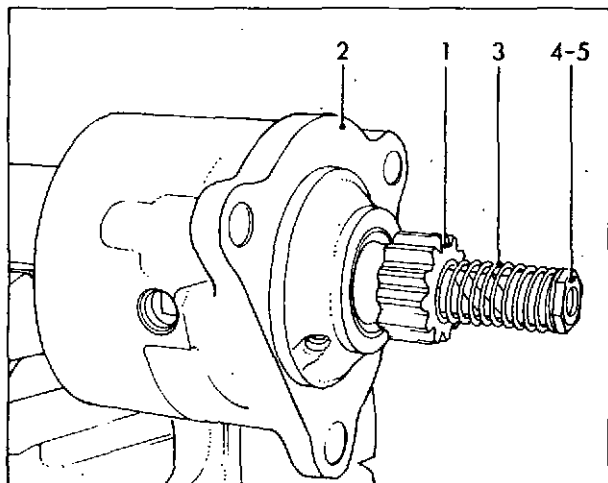

Fig. 24 Assembling drive end shield
Pull the pinion (1) fig. 24 fully out of the drive end shield and retain it in this position.